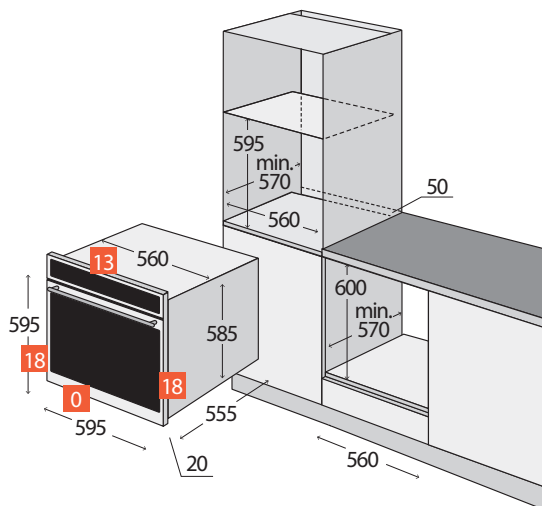

Fig. 6
- The unit should be installed in standardised kitchen furniture designed for built-in appliances or in properly adapted furniture of dimensions according to Fig. 6.
- The appliance may be located either under a kitchen cabinet or in a stand-alone cabinet (Fig. 6).